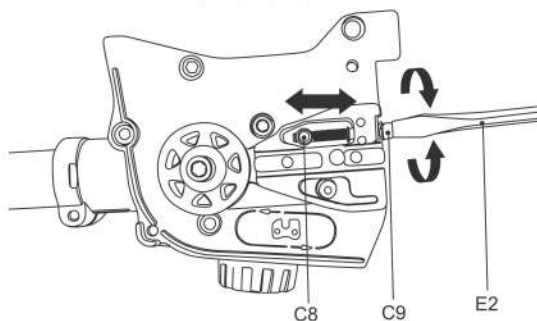

Fig. 9
- 5) Use the screwdriver end of the multi tool (E2) to turn the chain tension screw (C9) in a counter-clockwise direction, then the tension pin (C8) is moved towards the left. If the chain tension screw (C9) is turned in a clockwise direction, then the tension pin (C8) is moved towards the right. (Fig.9)